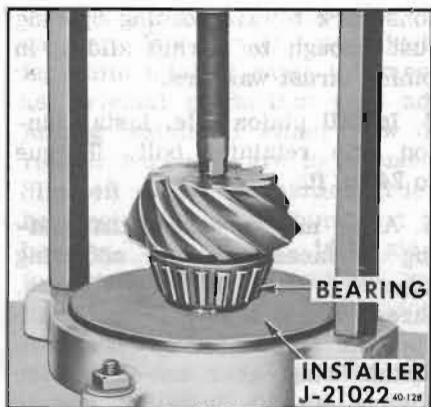

Figure 40-114—Installing Rear Pinion Bearing
13. Position correct shim on pinion shaft and install rear pinion bearing. Use Installer J-21022 as shown in Figure 40-114.